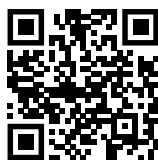

Fig. 60
- ▶ Åpne Liebherr SmartMonitoring Dashboard. (se Fig. 60)